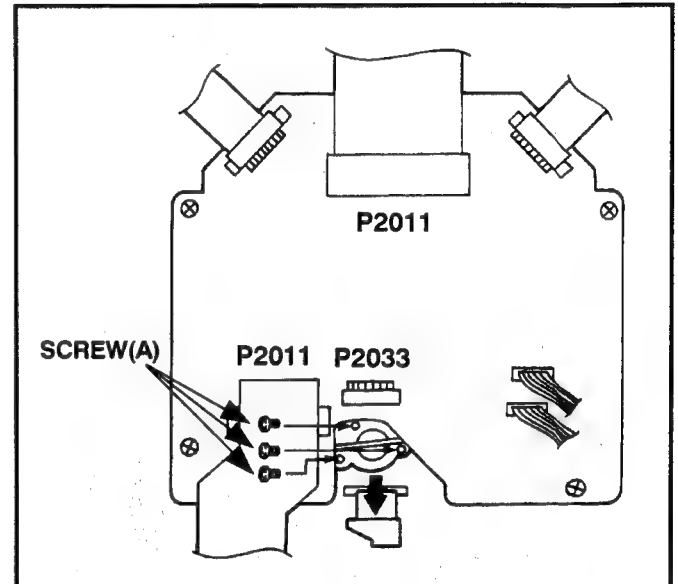

Fig. 6-1-5
8. Unscrew the 2 screws and remove the T1 GUIDE (Refer to item 6-8-1)
9. Remove the Cleaning Arm Unit (Refer to item 6-8)
10. Disconnect the connector P2033 on the Servo P.C.Board. And remove the 3 screws which have spring from the Cylinder Unit as shown as Figure 6-1-5, then remove the Cylinder Unit without touching any mechanical parts as shown in Figure 6-1-6.